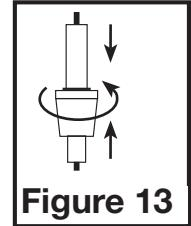

Figure 13
- Follow the steps in **SECTION 5 Wiring** to gain access to the fuse holder located inside the wire compartment. To replace the fuse, squeeze the top an bottom of the fuse holder together while twisting the larger piece in a direction away from the tabs (**Figure 13**). Replace fuse only with 0.5 Amp, 250VAC, 5 x 20mm, Fast Acting fuse. Reconnect the fuse holder by lining up the top an bottom section and squeeze together while twisting until they are locked in place. Carefully tuck back into the wire compartment and reinstall the wire compartment cover.